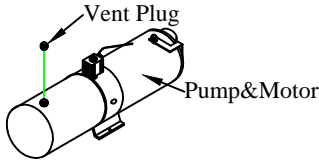

Figure 16: Vent plug.
2. **Unscrew** the solid plastic plug from the pump reservoir and **Install** the vent plug provided (Figure 16).